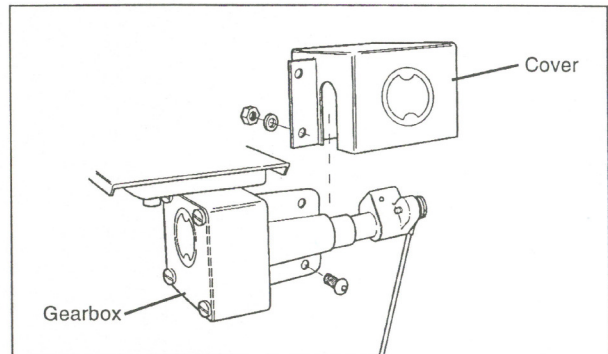

Figure 8 — Attach Cover to the Gearbox.
- 15) Attach cover to the gearbox with button head screws, washers, and nuts. Tighten with Allen wrench (see figure 8).